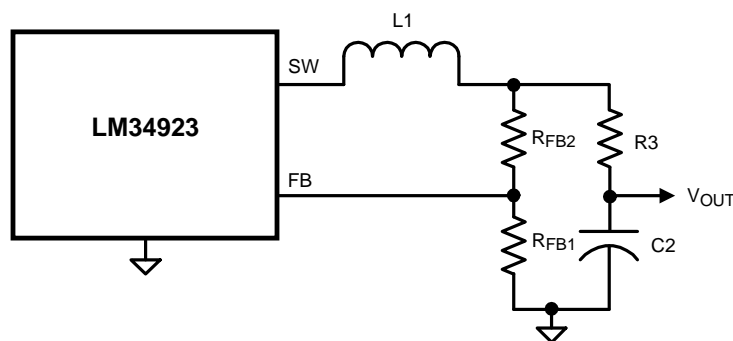

Figure 38. Alternate Minimum Output Ripple
**c) Alternate minimum ripple configuration:** The circuit in Figure 38 is the same as that in the Block Diagram, except the output voltage is taken from the junction of R3 and C2. The ripple at  $V_{OUT}$  is determined by the inductor's ripple current and C2's characteristics. However, R3 slightly degrades the load regulation. This circuit may be suitable if the load current is fairly constant.